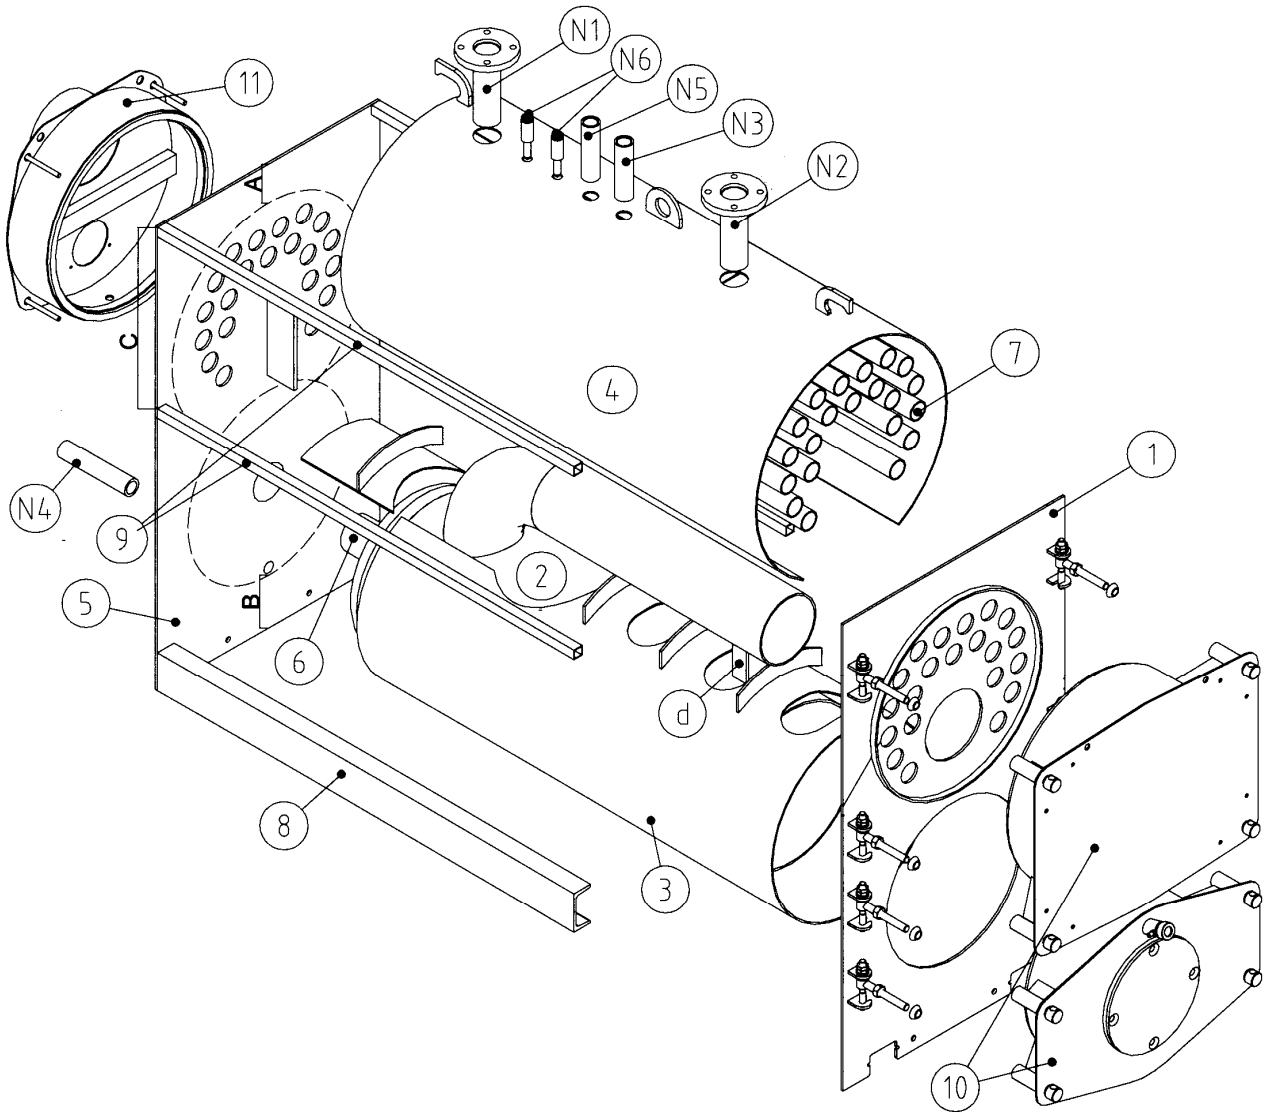

Fig. 6
4.1 MONTAGGIO CALDAIA GREENOx.e K 10-70 (Fig. 6)